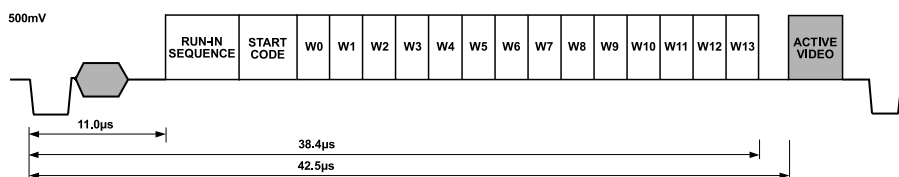

Figure 104. WSS Waveform Diagram
59. The WSS data is preceded by a run-in sequence and a start code (see Figure 104). The latter portion of Line 23 (after 42.5 μs from the falling edge of HSYNC) is available for the insertion of video. WSS data transmission on Line 23 can be enabled using Subaddress 0x99, Bit 7. It is possible to blank the WSS portion of Line 23 with Subaddress 0xA1, Bit 7.